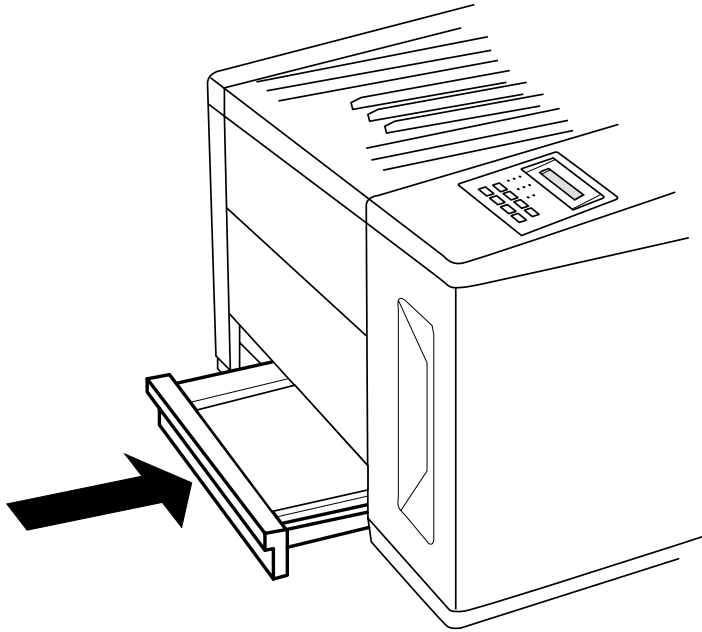

Fig. 8.9 Slide the cassette into the printer
6. Slide the envelope cassette into the printer (fig. 8.9).